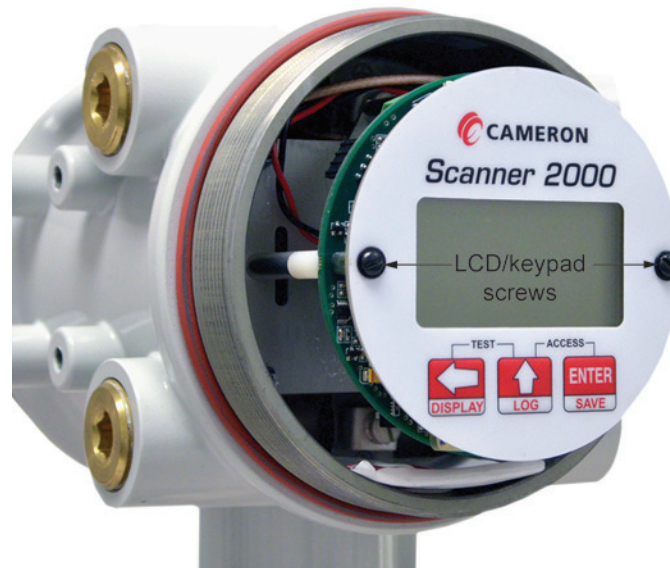

Figure 5.2—LCD/keypad screw locations
2. Remove the two #4-40 × 7/8” screws located to the right and left side of the display (Figure 5.2).
2. Remove the two #4-40 × 7/8" screws located to the right and left side of the display (Figure 5.2, page 73).